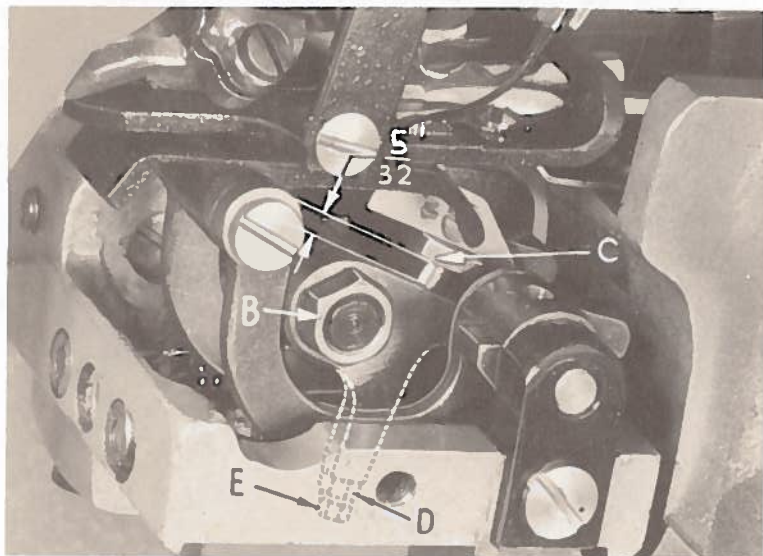

Fig. 8
If there is a need to remove the ridge forming disc assembly, depress the feed plate holders, remove the nut (B, Fig. 8) on the ridge former shaft and remove the ridge forming disc assembly. Remember when re-assembling the ridge forming disc assembly, care must be taken so that the key in the flange engages with the slot in the ridge forming disc holder. Then re-assemble the nut (B, Fig. 8) and tighten firmly.
Pressure is directly applied to the yielding ridge forming disc by adjusting the plunger rod (C, Fig. 8) with the upper nut (D) and locking in place with lower nut (E). Generally, the correct pressure is obtained when there is  $\frac{5}{32}$  inch clearance between the top of the plunger holder and the underside of the head of the plunger shaft (Fig. 8).